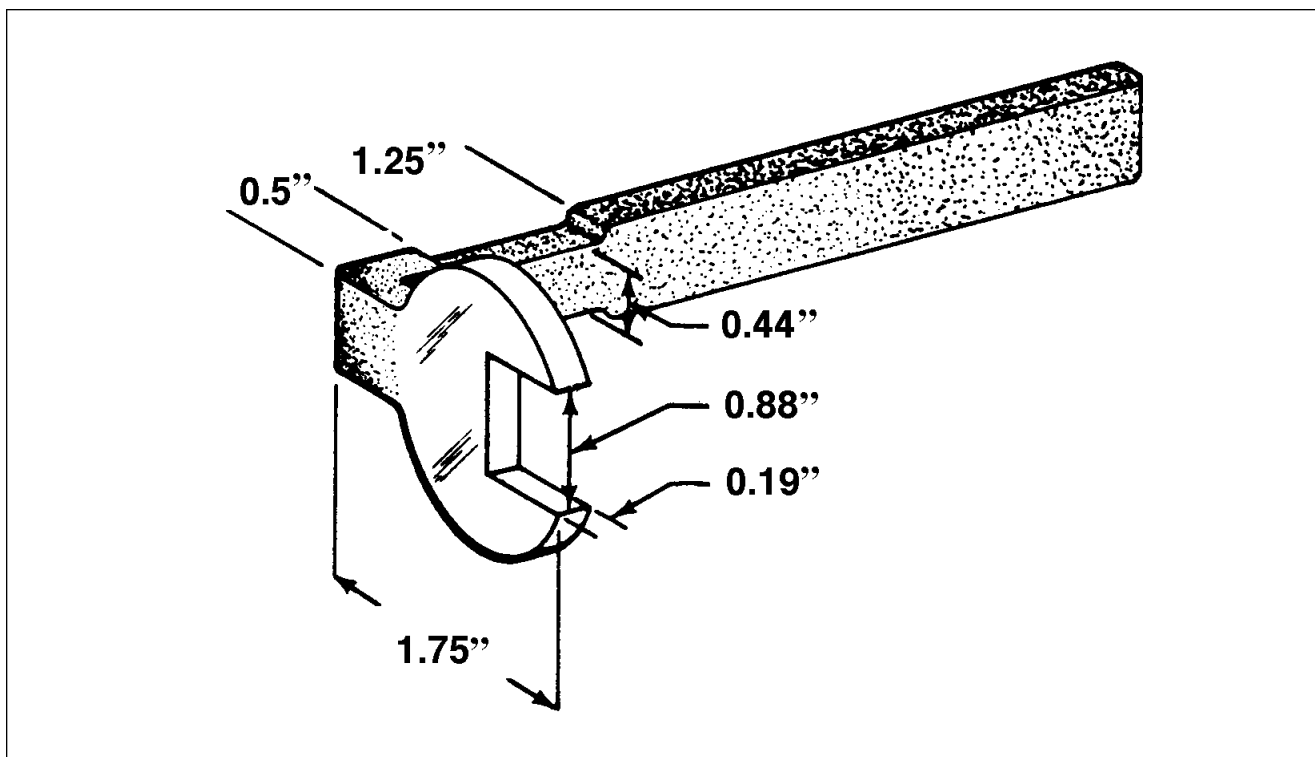

Figure 4-9. Fabricated Tool For Baggage Door Lock
- a. With the door open remove the nut from the back of the lock assembly by use of a special made wrench. (This tool may be fabricated from the dimensions given in Figure 4-9.)